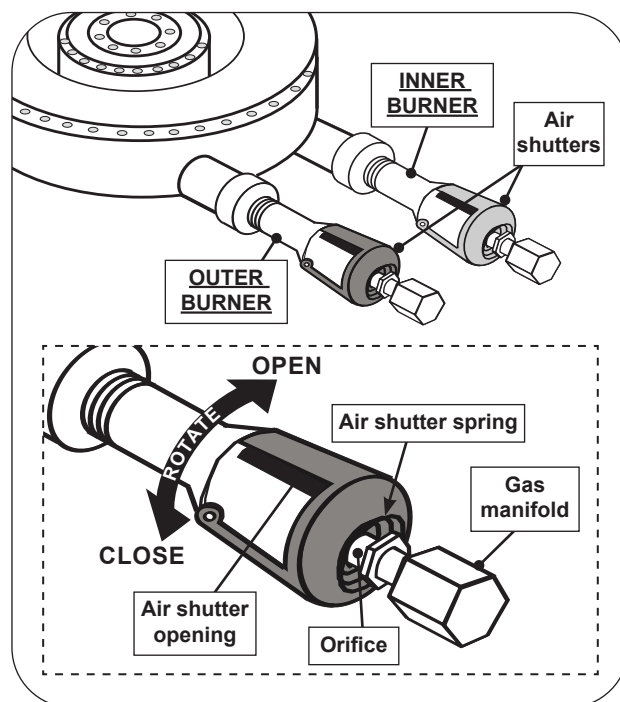

Fig. 54-1 Power burner air shutter adjustment detail
1. To adjust the air shutters, rotate the shutters to open or close them. See Fig. 54-1 for details.